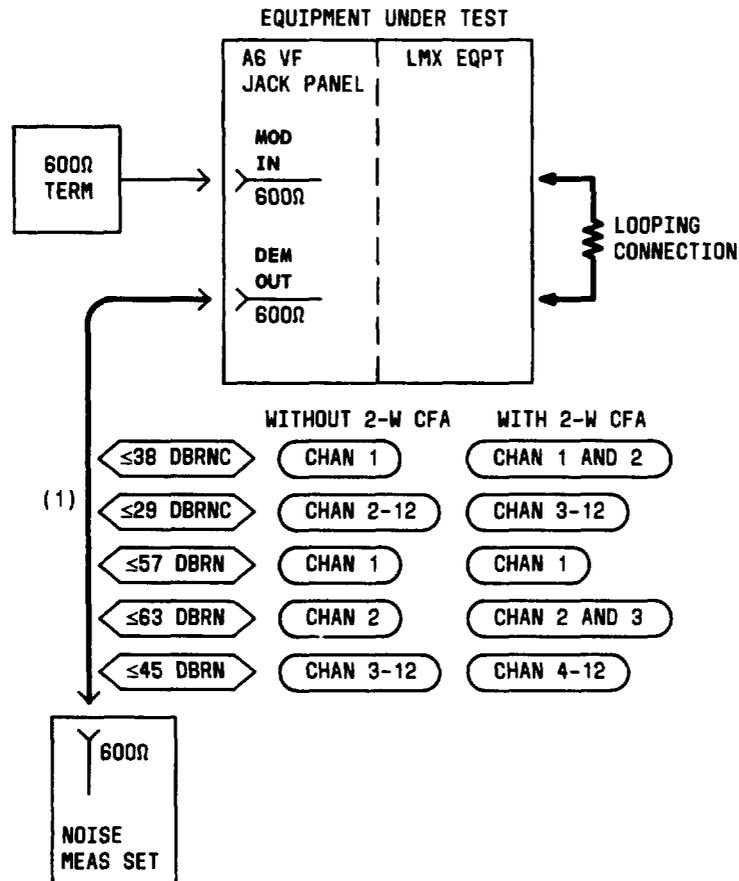

Fig. 10—Patching Diagram—Noise Test—Equal-Level Looping
11	Insert a 262B plug (600-ohm termination) in the MOD IN jack for Channel 1 of the channel bank under test (Fig. 10).
12	Connect the NMS to the DEM OUT jack for the channel under test [patch (1), Fig. 10].
21	Remove patch (1), Fig. 10.